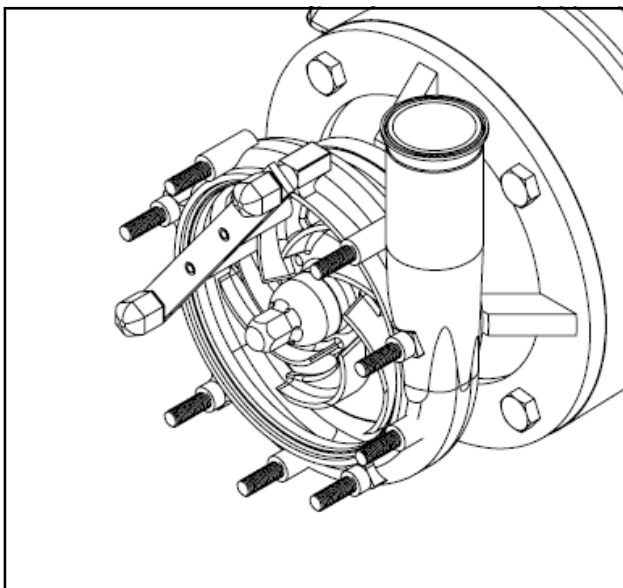

Figure 2
4. Place impeller stop tool over casing studs though the two holes in both ends of the tool, as shown in Figure 2. Rotate the impeller so a vein of the impeller is between the impeller stop tool's bronze pegs.
Use two (2) cover nuts to hold the stop tool in place to securely hold the impeller and shaft. See Figure 2.